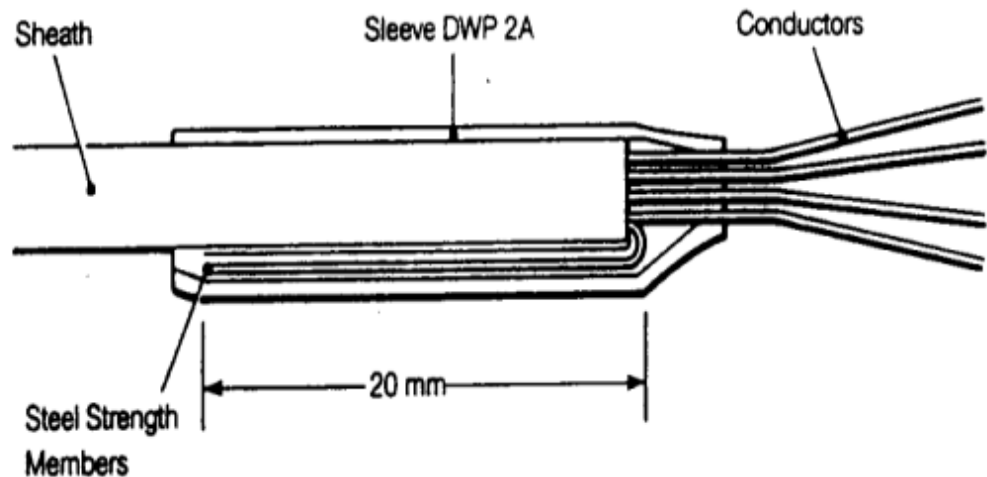

Figure 4 Sleeve Dropwire Protection 2A Fitted onto Dropwire 10
3. Extract the conductors and strength members and cut off the excess sheathing and the rip cord with Nippers Diagonal Cutting 160 mm. Using the nippers, cut off the strength members to a length of 20 mm. *Note that these are the only nippers recommended to cut the steel strength members.* Fold the strength members back along the sheath and fit a Sleeve Dropwire Protection 2A over the wires and sheath (see Figure 4).